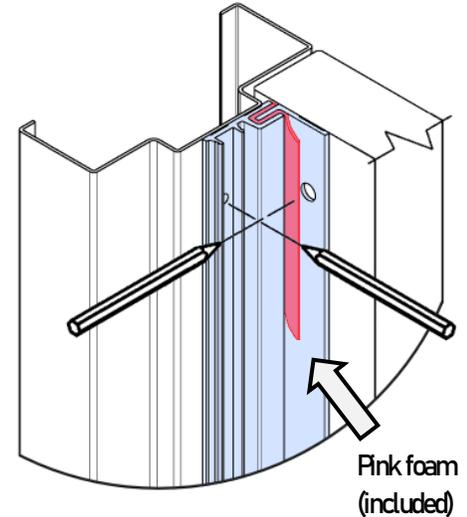

Fig. 1
- A With the door closed, place both portions of Latch Guard on soffit of frame and closed door as shown (Fig. 1). To help with centering, it is recommended to place the pink foam material, supplied as part of the packaging material, over the male portion near top and bottom. Press the female section over the male, wedging the foam material between both parts to hold the sections in position for mounting, making sure to also center this section vertically and NOT get the foam trapped between the Latch Guard and door. Using the correct vertical spacing, and while making sure that this piece is flush with the frame and not overhanging far enough to interfere with the door closing, fasten firmly in place using the supplied self-drilling pan-head hardware in the holes provided. You may also mark the fastener holes in the frame and door first with a pencil or punch if desired.